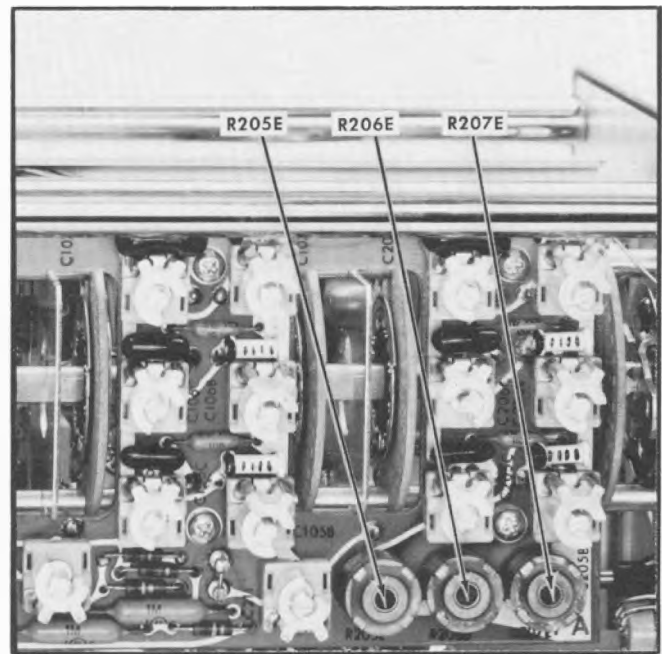
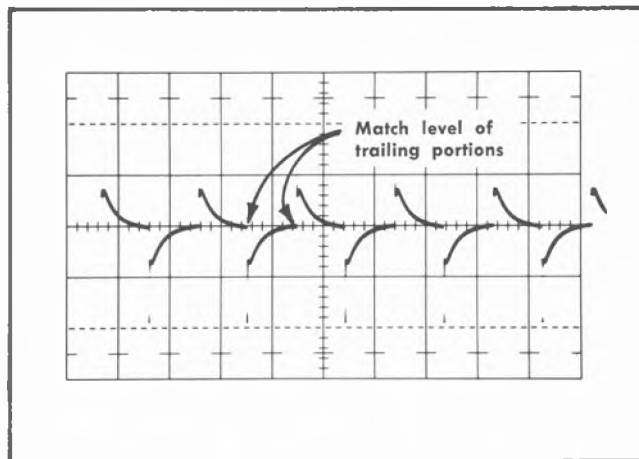

Fig. 6-34. Location of step 21 adjustments
Fig. 6-33. Typical 1-kHz null display obtained when R205E is adjusted properly.
e. Check and adjust for optimum differential balance according to the information given in Table 6-3. Ignore the spikes on the waveform. The trailing portion of the cycles must match each other. Fig. 6-33 shows a typical display obtained when R205E is adjusted properly. The displays for the other positions of the VOLTS/CM switch will appear similar. See Fig. 6-34 to locate the adjustments.